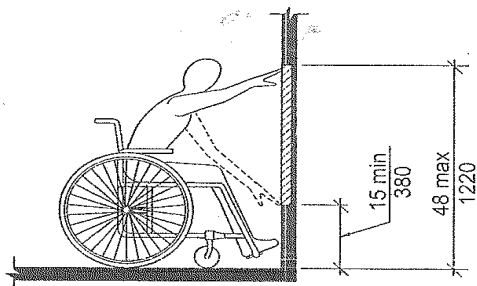

Figure 1
- Unobstructed forward reach. Where a clear floor or ground space allows only a forward approach to an object and is unobstructed, mounting height shall be a minimum of 15 inches (381 mm), and a maximum of 48 inches (1.22 m), above the floor or ground to the operable controls. See Figure 1 for illustration.